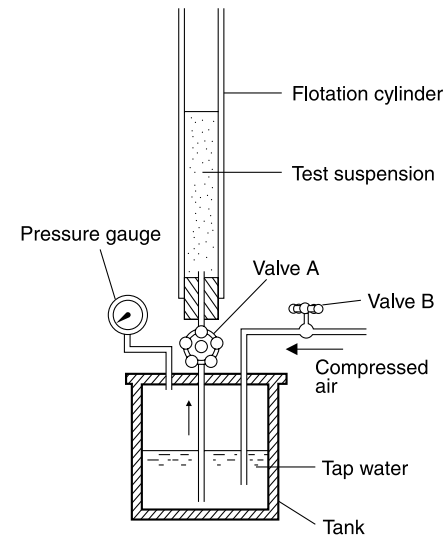

Figure 7. Flotation Tester
3) Flotation test (flotation tester method) (See Figure 7.)